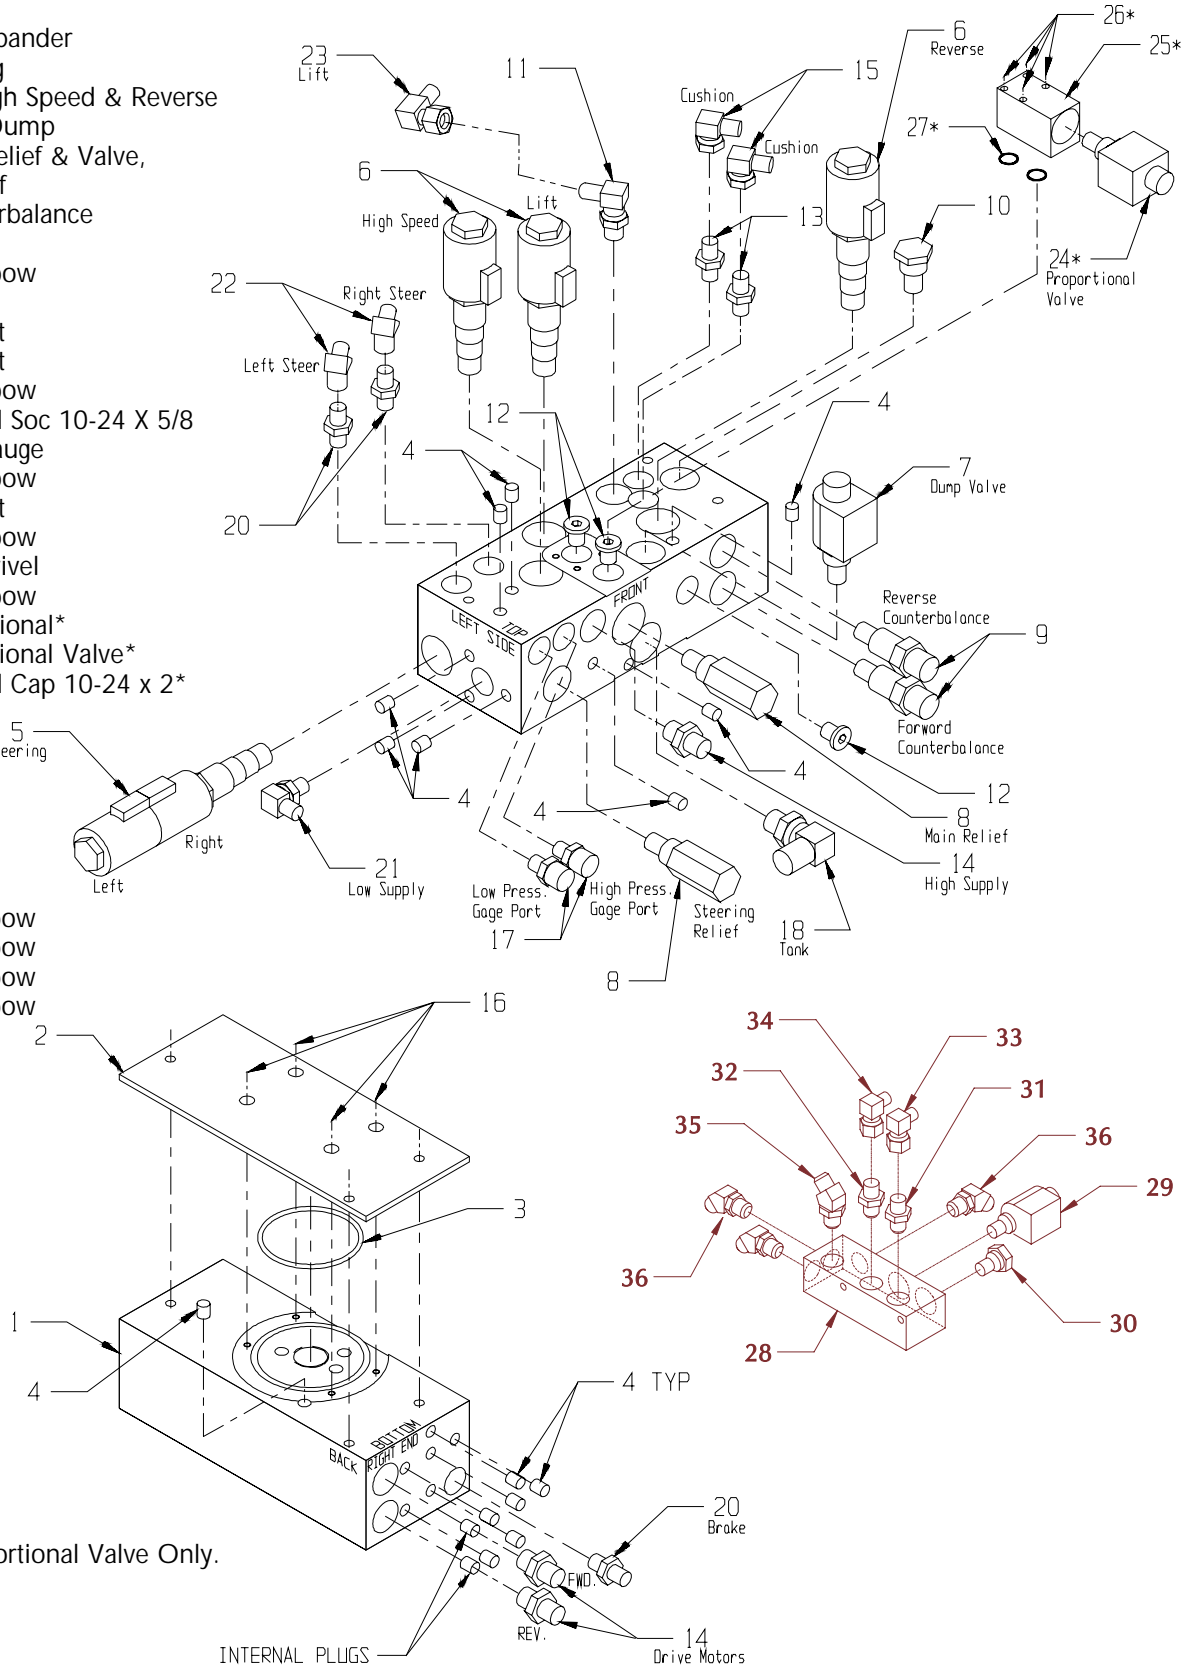

Figure 4-11: Hydraulic Manifold
## 4.7 Hydraulic Manifold (Figure 4-11)
**NOTE:** Mark all components as they are removed so as not to confuse their location during assembly. Refer to Figure 4-11 often to aid in disassembly and assembly.